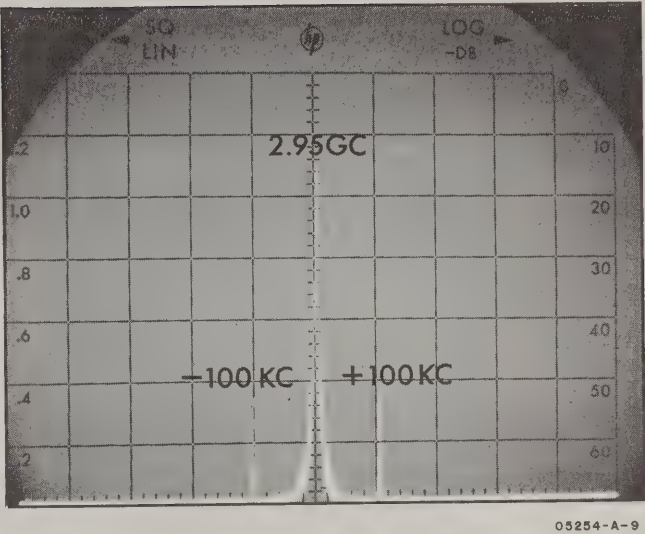

Figure 5-1. Spectrum Analyzer Display
- j. Observe 100 kc sideband and adjust capacitor (A1C13) for minimum side bands (see Figure 5-1). Side bands should be 30 db below 2.95 gc reference.